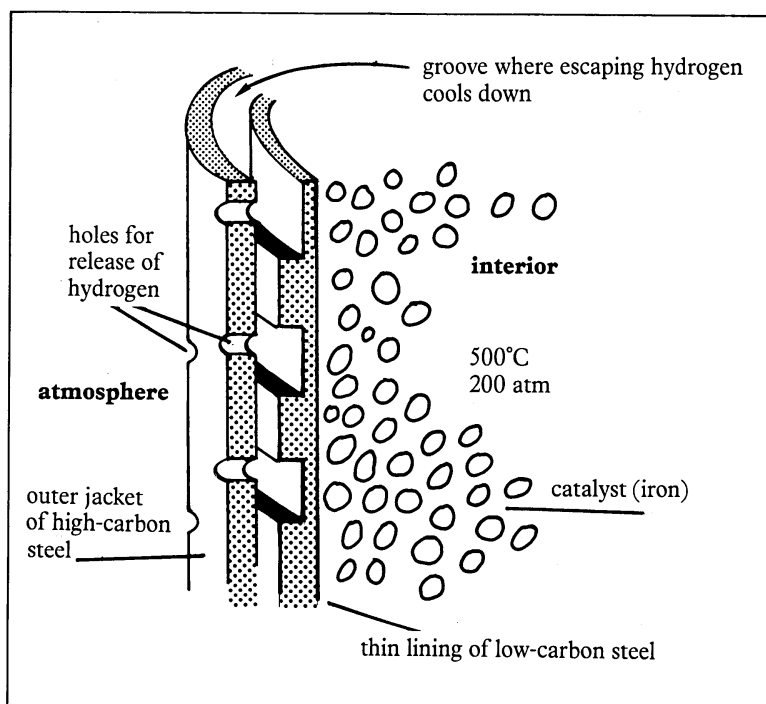

Figure 5 A section of Bosch's double-walled reactor for the Haber process
Bosch found a solution to the problem in 1911. His design is shown in Figure 5.
- 12 How did Bosch's design (Figure 5) prevent the strong outer wall from being weakened by the reaction between carbon in the steel and hydrogen from the reaction mixture?